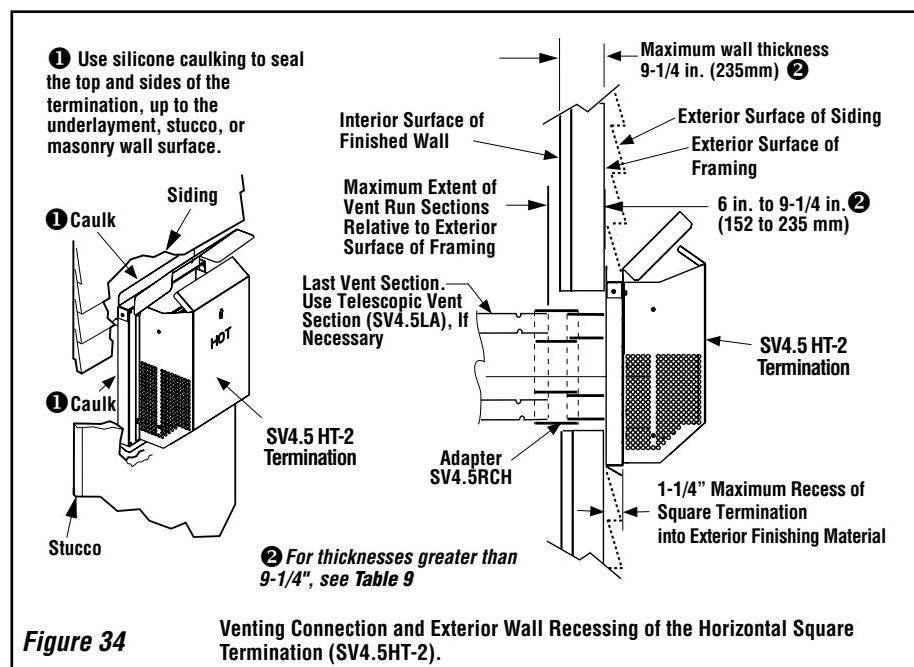

Figure 34 Venting Connection and Exterior Wall Recessing of the Horizontal Square Termination (SV4.5HT-2).
J. Assemble vent run to exterior wall - If not previously measured, locate the center of the vent at the exterior wall. Prepare an opening as described in **Step B**. Assemble the vent system to point where the terminus of the last section is located relative to the exterior surface to which the termination is to be attached as shown in **Figure 34**.
If the terminus of the last section is not within this distance, use the **telescopic vent section SV4.5LA**, as the last vent section. For wall thicknesses greater than that shown in **Figure 34**, refer to **Table 9 on Page 21**. This Table lists the additional venting components needed (in addition to the termination and adapter) for a particular range of wall thicknesses.
For the last step, from outside the exterior wall, slide the collars of the termination onto the adapter until the termination seats against the exterior wall surface to which it will be attached. Orient the housing of the termination with the arrow pointed upwards. Secure the termination to the exterior wall. **The horizontal termination must not be recessed into the exterior wall or siding by more than the 1-1/4" (32 mm) as shown in **Figure 34****.
Table 9 *Note: See Figure 34 showing wall thickness range when using SV4.5HT-2 termination kit only.*